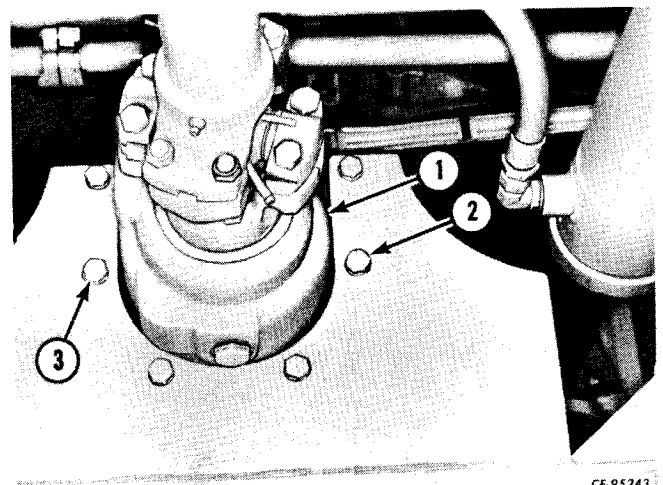

Figure 5-19
Remove the cap screws (3, Fig. 5-19) and lock washers that secure the transfer drive (1) to the